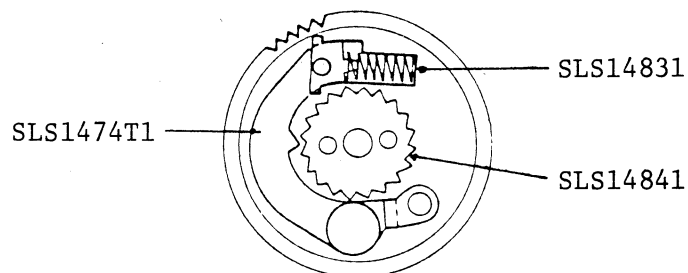

Fig.81
- 3) The SLS1474T1 Clutch in the F.clutch wheel moves in direction shown by the arrow. Consequently, it is detached from the SLS14841 Ratchet gear as shown in Fig. 81.